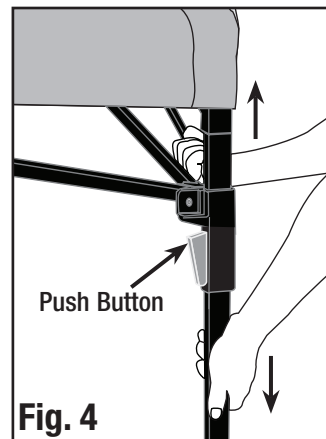

Fig. 4
- Pull up sliding bracket located on upper portion of leg until push button snaps into place. (Fig. 4) This will ensure top of frame is fully extended.